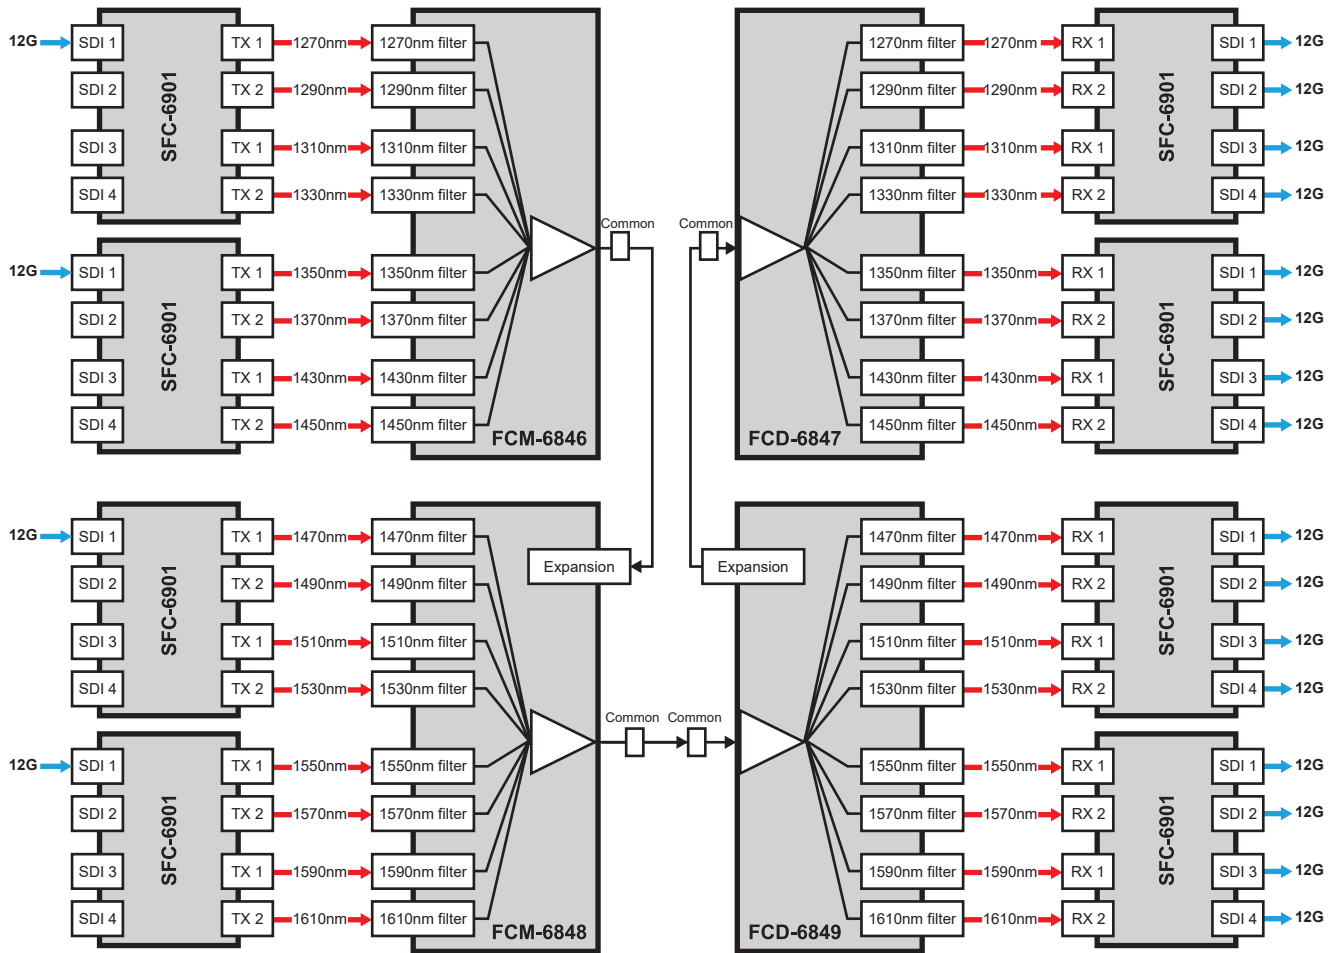

Figure 6 Workflow Diagram — Multi-channel CWDM Link
**Figure 6** is an example where eight SFC-6901 are used in conjunction with other Ross Video openGear Fiber cards to build a multi-channel CWDM link.